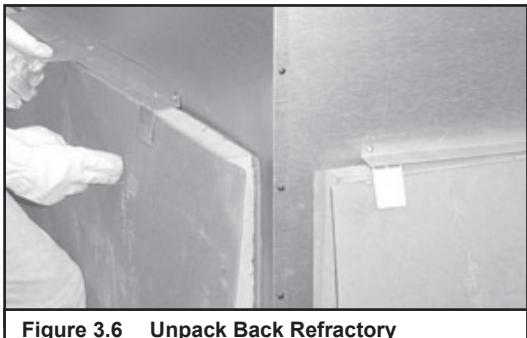

Figure 3.6 Unpack Back Refractory
- Remove back refractory from outside of fireplace by bending tabs up and lifting refractory out of brackets. See Figure 3.6.